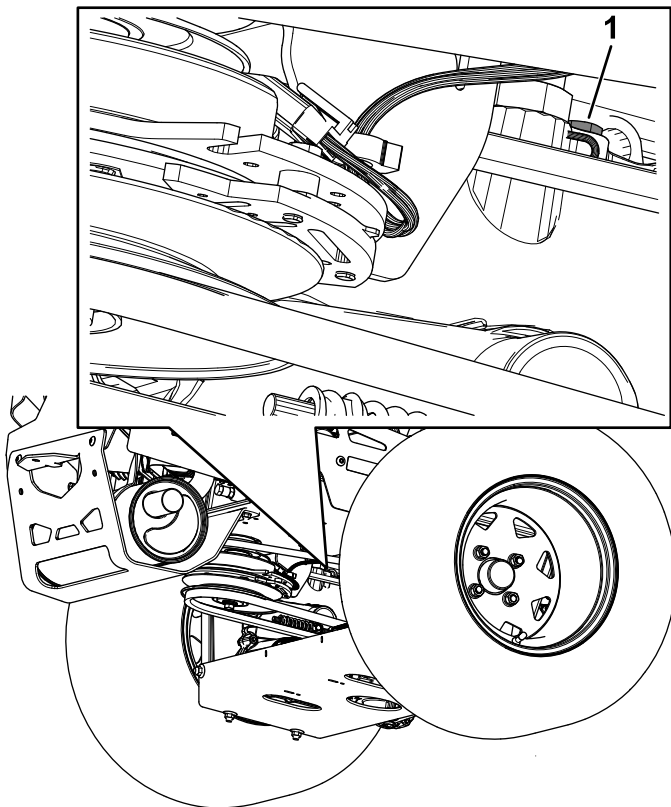

Figure 81
- **For ZT 5400 Hydros**, use a 7/16-inch wrench to access the vent plug from underneath the machine (Figure 81).